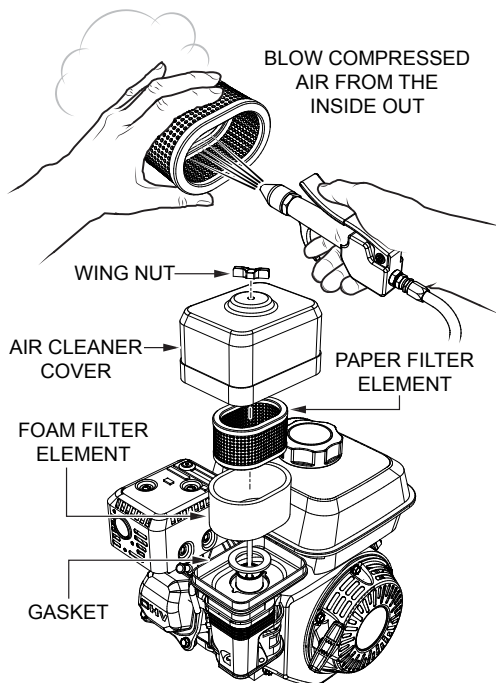

Figure 33. Engine Air Cleaner (Dual Element)
1. Remove the air cleaner cover and foam filter element as shown in Figure 33.
2. Tap the paper filter element (Figure 33) several times on a hard surface to remove dirt, or blow compressed air [not exceeding 30 psi (207 kPa, 2.1 kgf/cm2)] through the filter element from the air cleaner case side. **NEVER** brush off dirt. Brushing will force dirt into the fibers. Replace the paper filter element if it is excessively dirty.